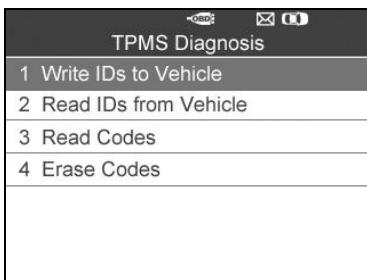

Figure 4.22
- 1) From the TPMS Diagnosis Menu, use the **UP/DOWN** scroll button to select the **Read IDs from Vehicle**, and press **Y** button. (Figure 4.22)
- 1) From the TPMS Diagnosis Menu, use the **UP/DOWN** scroll button to select the **Read Codes**, and press **Y** button. (Figure 4.22)
- 1) From the TPMS Diagnosis Menu, use the **UP/DOWN** scroll button to select the **Erase Codes**, and press **Y** button. (Figure 4.22)